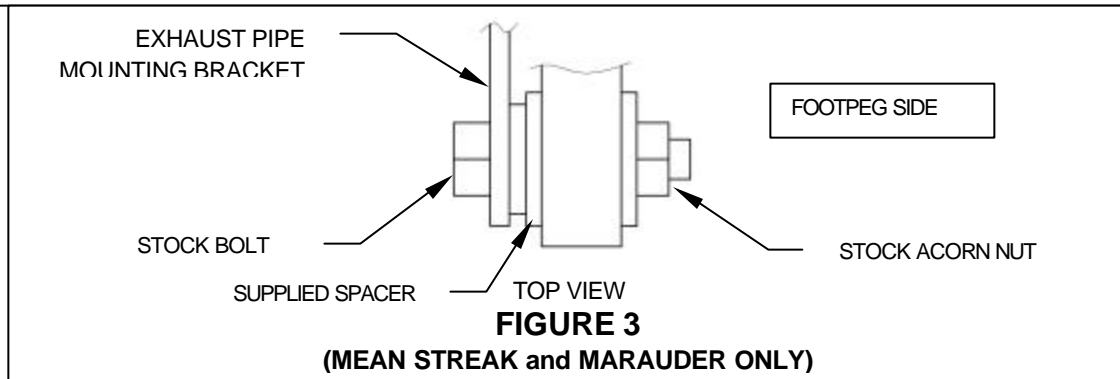

FIGURE 3
6. Slide the top muffler over the rear head pipe and align holes in the mounting bracket with the holes in the frame bracket. **NOTE:** Be sure the mounting bracket is mounted behind the frame bracket. Using stock hardware, secure the mounting bracket to the frame bracket. **Note: On the Mean Streak and Marauder models place the supplied black spacer between back of passenger foot peg mount and exhaust pipe bracket, refer to fig. 3, using all the stock hardware except for the small washer, which is not used.**